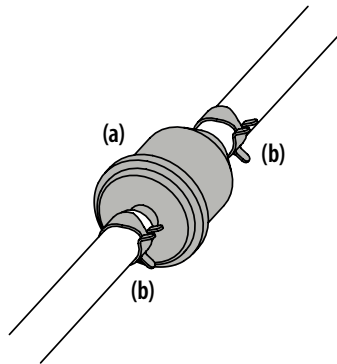

Figure 5-34
5. To remove the in-line fuel filter, use pliers to squeeze tabs on the clamps (b), then slide the clamps (b) away from the in-line fuel filter (a). Twist and pull the fuel lines off of the in-line fuel filter (a). See Figure 5-34.